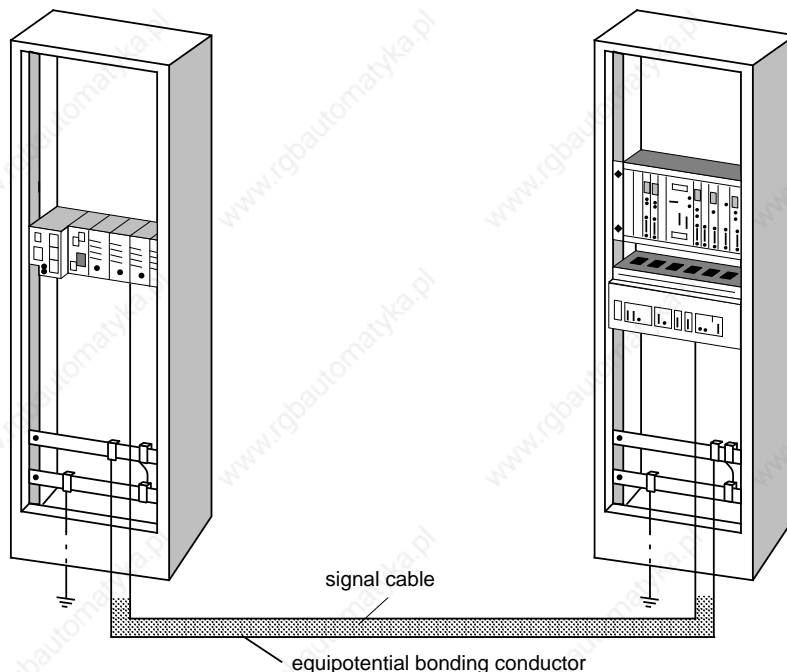

Figure 3-31. Laying Equipotential Bonding Conductor and Signal Cable
- The equipotential bonding conductor should be laid in such a way as to achieve a relatively small contact area between equipotential bonding conductor and signal cables (see Figure 3-31).